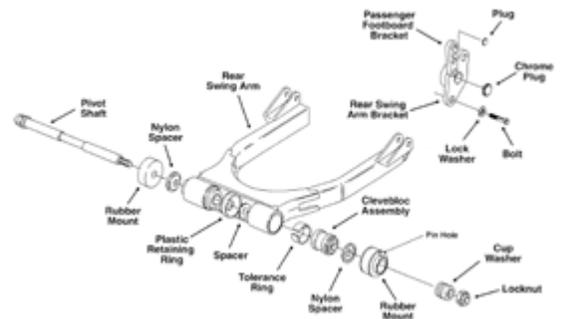

Figure 5
- If Equipped, Trim OEM Sidecar mounting bolt to allow clearance for RHS mounting bracket. See Figure 5